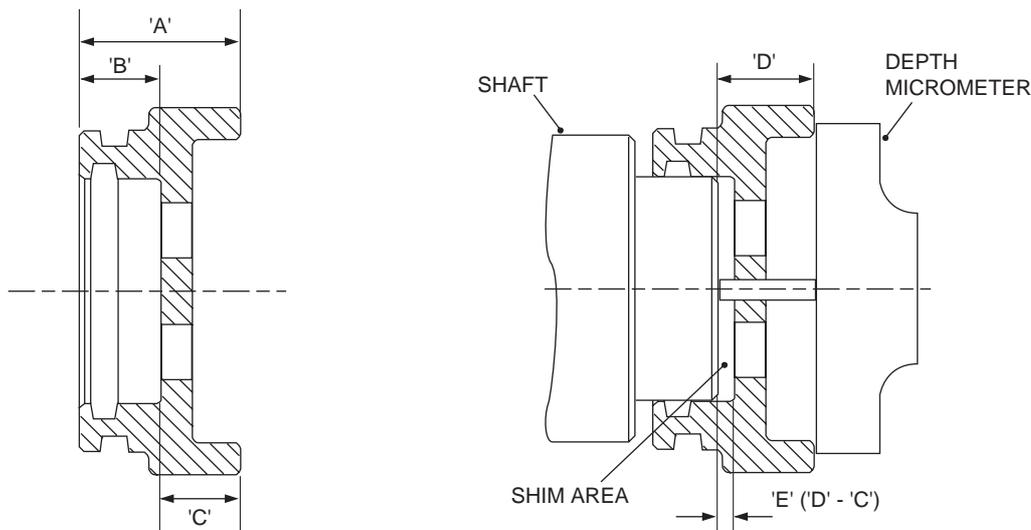

Fig. 3 - Measurements / various
17. Take remaining seal (15), apply loctite (3) and fit over drive shaft with seal 'Lip' to bearing side. Press seal home using a mandrel.
18. Apply grease to splines of brake yoke (18) and slide onto drive shaft (14). Ensure milled slots of driving flanges are aligned with those of brake yoke.
**Note :** For Measurement letters- refer to fig. 3, unless otherwise stated.
19. Before fitting of Rear Thrust collar (63) record Measurements as stated:
- i) Measure total width 'A' of Rear thrust collar (63)
- ii) Using Depth micrometer, measure inner bore depth 'B' of collar (63) and record value.
20. Fit Rear thrust collar (63) without 'O'-rings onto Drive shaft (14) and tighten Rear bolts (19) to a nominal torque of 15Nm/11lbf ft.
21. Using a Depth micrometer, measure distance 'D' from collar (63) outer face to end face of drive shaft (14) via the hole in the collar and record the value.
22. The actual free air space 'E' to be shimmed between end of drive shaft (14) and compression face of Thrust collar (63) equals: